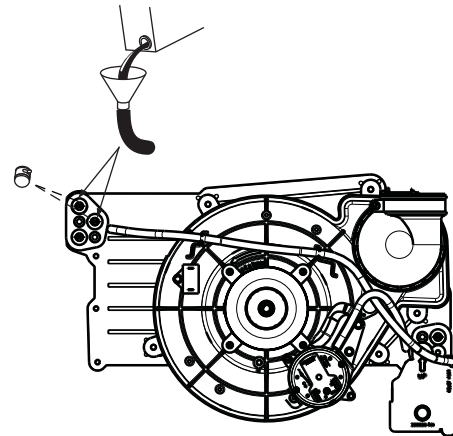

Fig. 61 - Priming Condensate Trap
4. Remove the top unused rubber plug from the port on the collector box opposite the condensate trap. See Fig. 61.
9. Remove the middle unused rubber plug from the port on the collector box opposite the condensate trap. See Fig. 61.